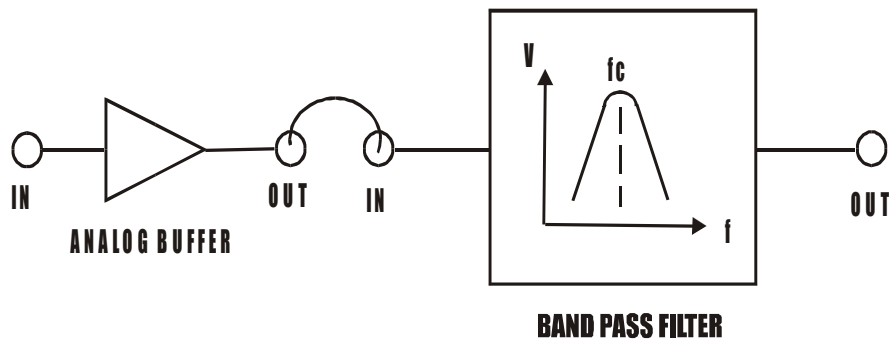

FIG.3.4 BAND PASS FILTER
- Ref to the fig. 3.4 & carry out the following connections.